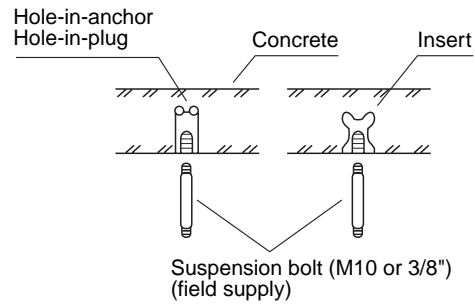

Fig. 3-74
- Insert suspension bolts as shown in Fig. 3-74 or
- (2) Screw in the suspension bolts allowing them to protrude from the ceiling as shown in Fig. 3-74. (Cut the ceiling material, if necessary.)